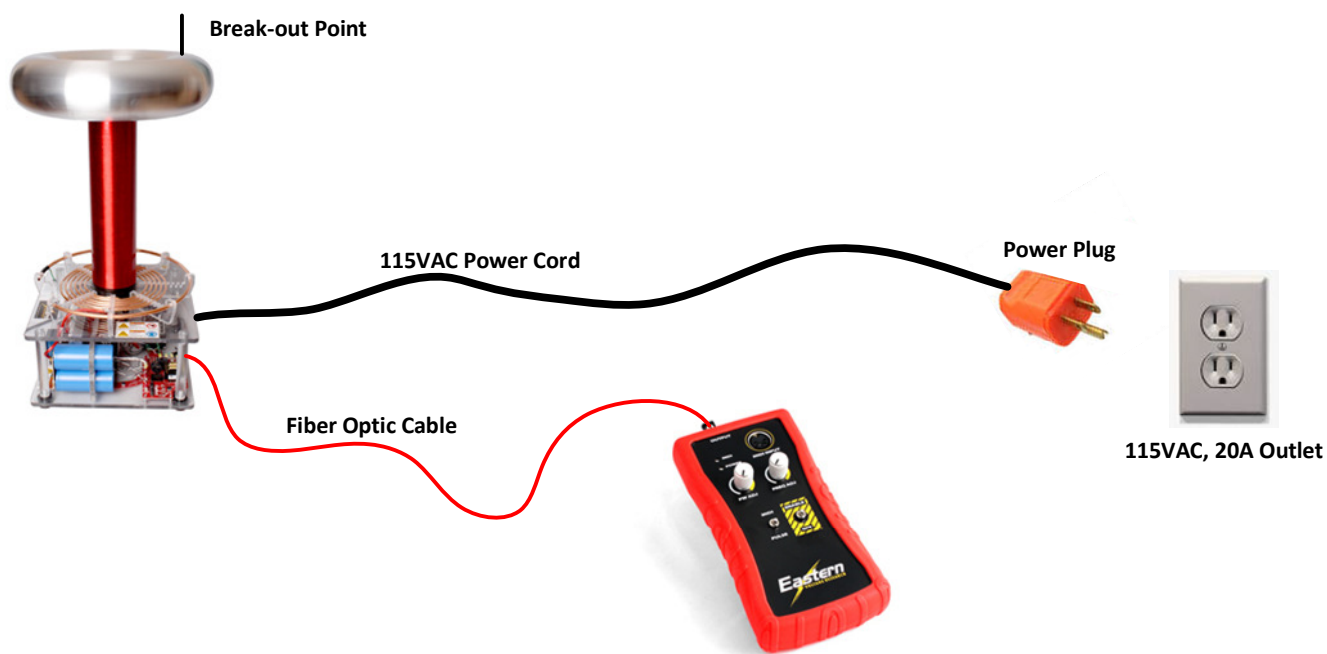

Figure 2– Standard Plasmasonic DRSSTC Hook-up
- One (1) Plasmasonic System (Pulse MODE operation) – Figure 2